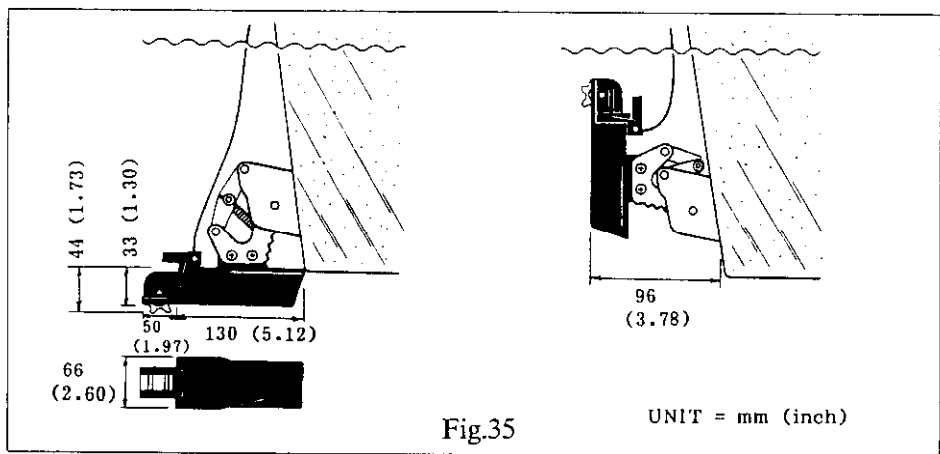

**Fig.34 Installation**
1. Attach the transducer to the bracket as shown in Fig.34.
3. On a relatively flat hull, the transducer is mounted flush with the hull-bottom, and there are two choices of installation as shown in Fig.34. Note that the direction of the transducer and its fixing holes on the brackets are different for each method. Although there is less influence from air bubbles with method (2), you must be careful not to damage the transducer when the boat is hauled out of the water/put on a trailer. On a deep "V" hull, the transducer is mounted in the same manner as method (2) for the Hat hull. It should be mounted as near as the bottom edge of the transom, and the transducer face must be paralleled with the seabed, not with the hull bottom.
When the transducer is mounted extruded from the hull bottom as shown in Fig.34 (page 45), it is subject to damage or loss due to floating objects, such as a log.
- 1) When the transom type transducer (520-5PWC) is mounted extruded from the hull bottom as shown in Fig.34 (page 45) or is mounted with the kick-up bracket, the sensor can be directly attached to it as shown below using any installation material.
- 2) When the transom type transducer (520-5PWC) is mounted flush with the hull bottom as shown in Fig.34 (page 45), the sensor can not be attached to the transducer because it is mounted with the sensor snapping side directed to the transom. In such a case, the sensor must be installed separately, using the optional sensor Bracket (0P02-30). See below figure.